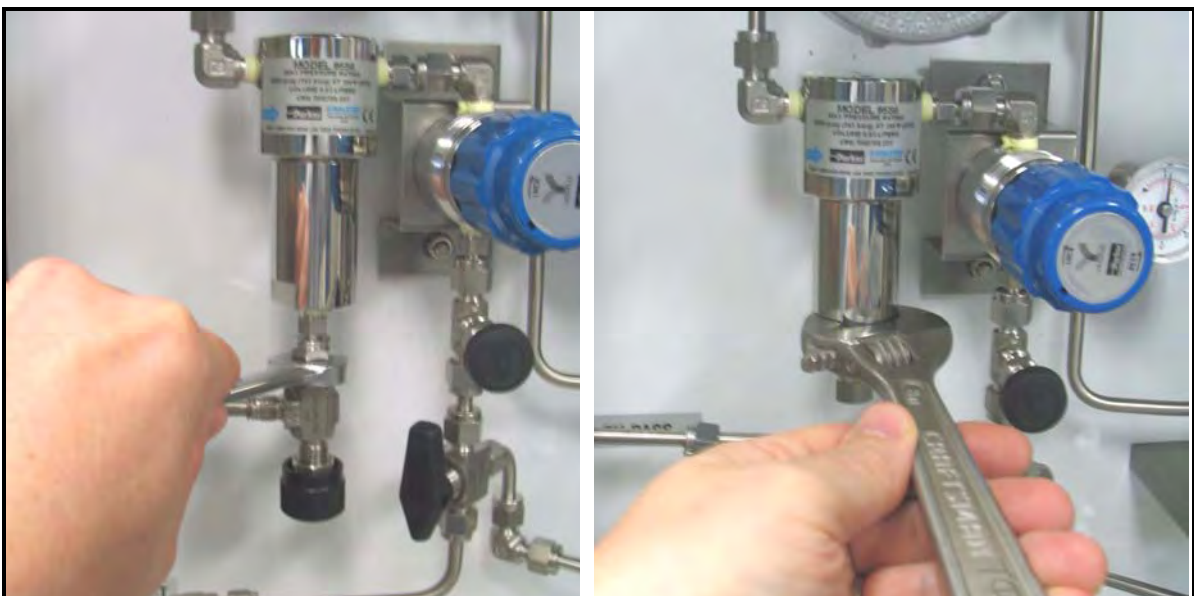

Figure 82: Removing the Lower Section of the Coalescer/Filter Assembly
4. Remove the lower section of the coalescer/filter assembly with an adjustable wrench (see Figure 82).